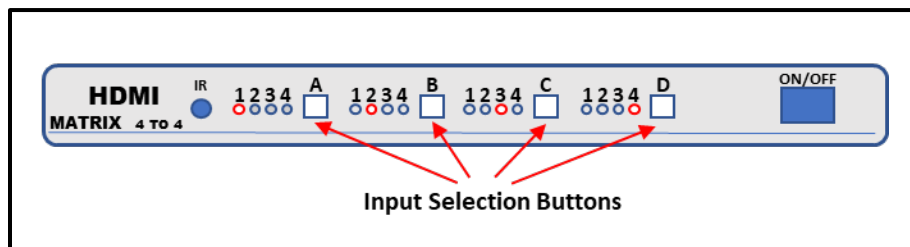

Figure 2. HDMI Switch Controls and Indicators
- (1) Remove the old batteries and clean the battery compartment.
- (2) Replace the batteries.
- f. Use the four white input selection buttons on the front of the HDMI Matrix to configure the matrix in accordance with the settings shown in Figure 2 below.
- (1) Output Port A Input Port 1
- (2) Output Port B Input Port 2
- (3) Output Port C Input Port 3
- (4) Output Port D Input Port 4